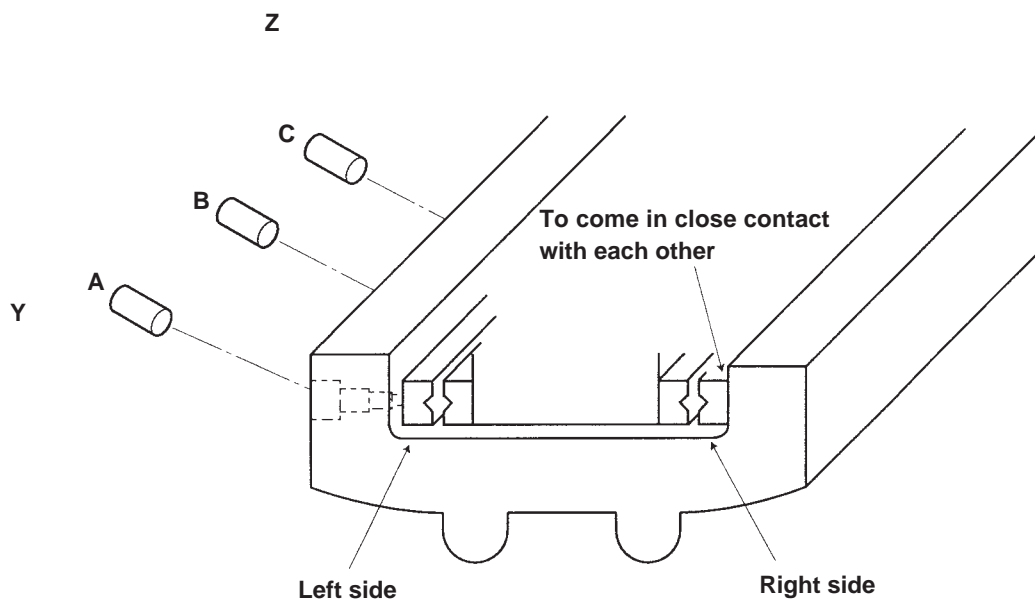

Fig. 2
2. Enter the cross roller which has been set to the machine bed and temporarily tighten six screws ③.
3. Apply pressure to pressing screws ④ in the cross roller to make the right side of the cross roller come in close contact with the end face of the machine bed, and fix the cross roller. (Fig. 2)
4. Loosen the pressing screws once and apply pressure again. At this time, when applying pressure, move base ⑦ to the position of pressing screws A, B, and C to apply pressure.